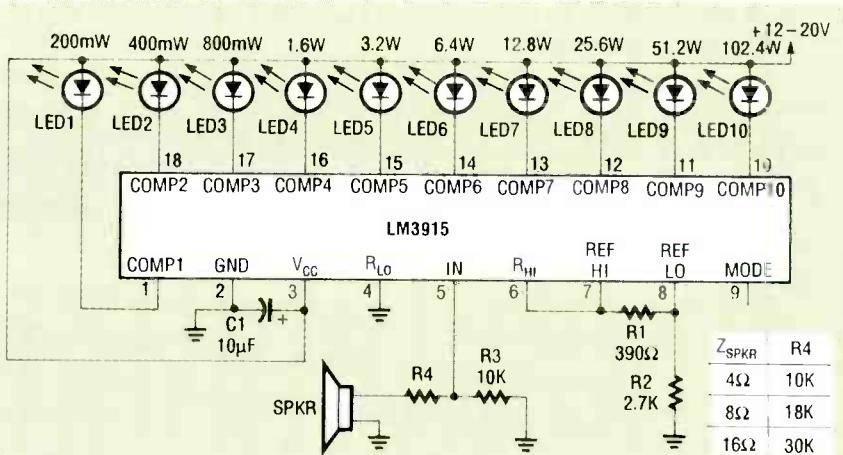
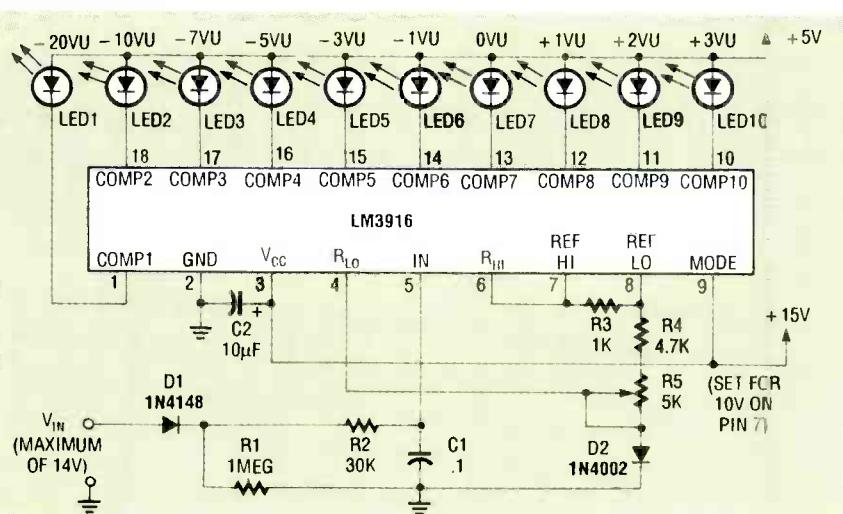
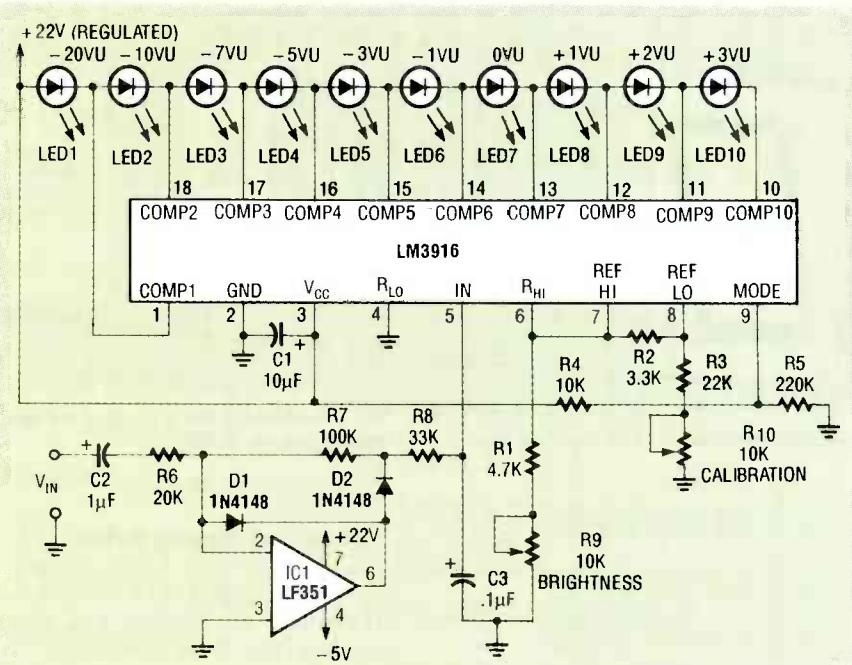

FIG. 14—A SIMPLE AUDIO POWER METER.
FIG. 15—A SIMPLE VOLUME-UNIT (VU) METER.
FIG. 16—A PRECISION VU METER with low current drain.
Figure 14 shows an LM3915-based audio power meter. Pin 9 is left open for dot mode, and R1 equals 390 ohms, for an LED current of 30 milliamps. The range of the audio power meter is 200 milliwatts-100 watts. A better approach is to half-wave rectify the signal on the input and feed in the resulting DC, as shown in the VU-meter circuits of Figs. 15 and 16.
Figure 15, a simple volume-unit (VU) meter, uses an LM3915 in bar mode; the signal at the input is rectified by D1 and filtered by R1-R2-C1, with D2 compensating for the forward drop of D1. Figure 16, a precision VU meter offering low current drain, uses an LM3916, with the combination of IC1-D1-D2 acting as a precision half-wave rectifier.